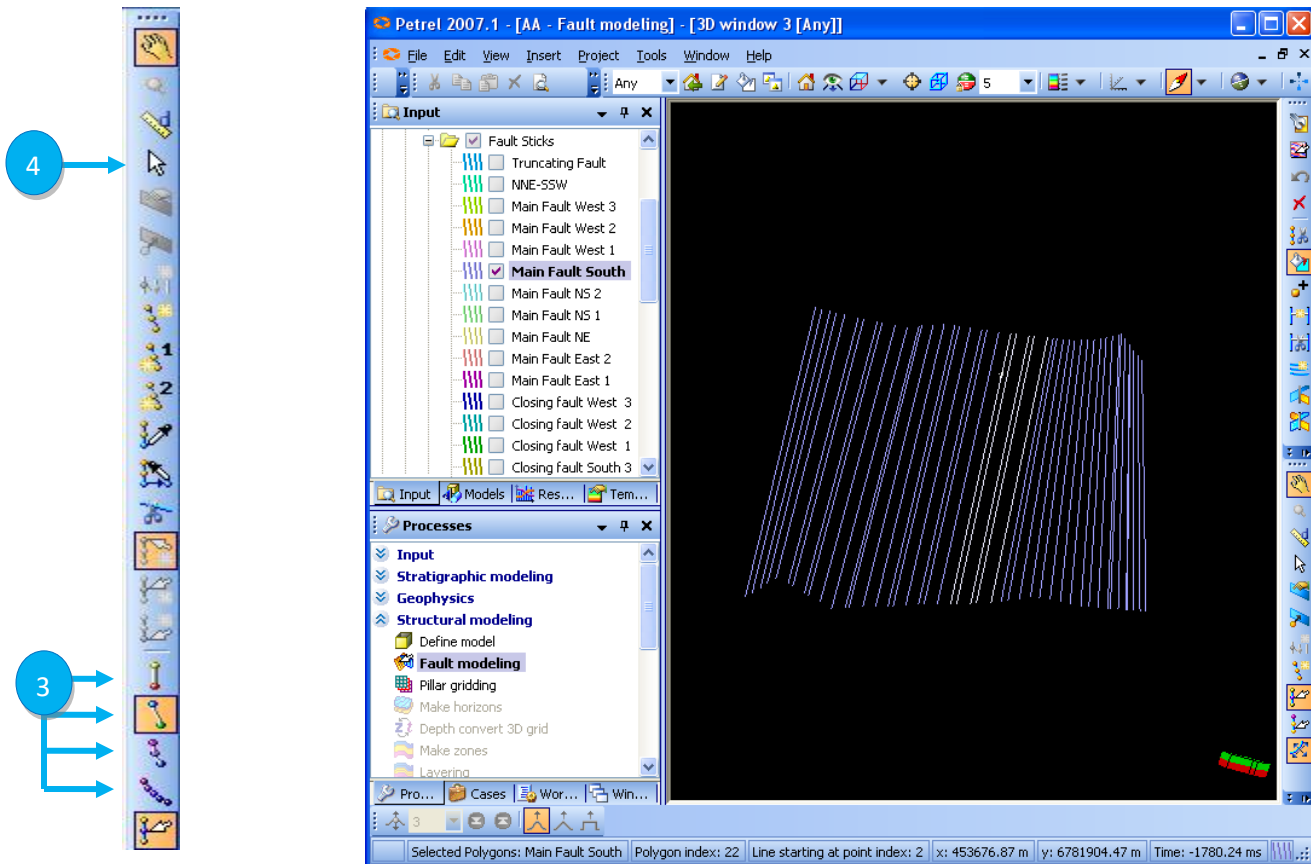

Fig. 11.23: Selecting fault sticks
5. Select some of the fault sticks on a fault by clicking on the fault stick and holding the **Shift** Key. See Fig. 11.23.